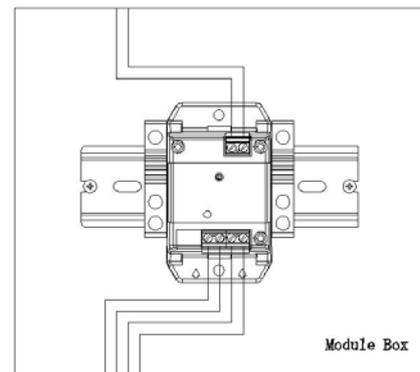

Fig. 2
- 2) The isolator shall either be installed in a North America standard metal electrical box. Minimum size is 4 in. square, 2-1/8 in depth (in this case, standard box cover is required), or in a UL Signaling Listed enclosure that provides minimum wiring entries and spacing as shown on Fig 2 and 3. Minimum mounting space is 67x40.5mm.